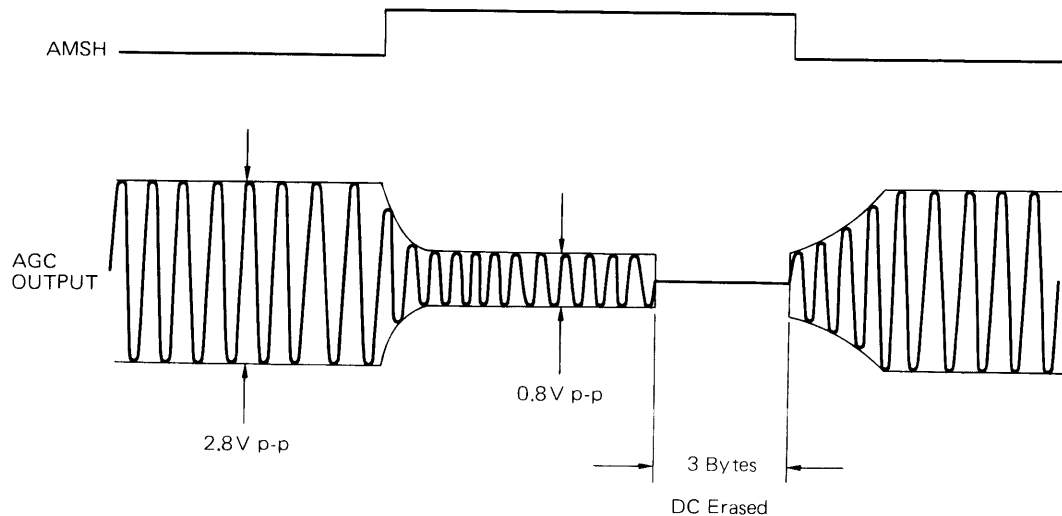

Figure 4-6-40 AM Search on Read Signal
In the Variable Soft Sector mode, the Address Mark (AM) which is a DC-erased 3 Byte area is used for the beginning of sectors. When the control unit issues an AM-Read (Tag 3 -- Bus 1 -- Bus 5) command, the AM-Search (AMSH) signal goes true and suppresses the AGC output amplitude to avoid mis-detection of an AM caused by external or media noise in the DC-erased area (refer to Figure 4-6-40).